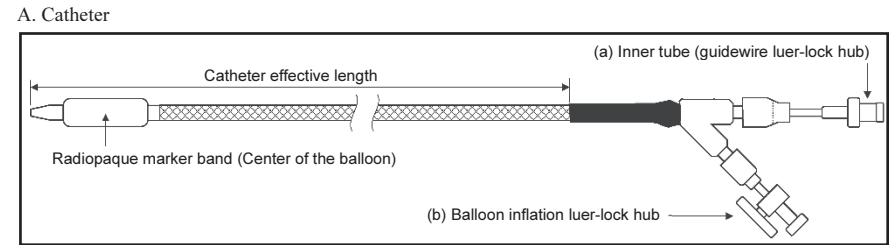

Figure 1
**INOUE BALLOON™ A** is intended for balloon aortic valvuloplasty (BAV) in patients with aortic stenosis (AS). The device is inserted over a guidewire and inflated with a predetermined amount of diluted contrast medium using the supplied syringe connected to the balloon inflation luer-lock hub (b). This results in the staged inflation of the balloon from hourglass to barrel shape. The balloon is stretched and made thinner by pushing the inner tube (a) in when passed through the introducer sheath. A radiopaque marker is provided to align the balloon center and the aortic valve using fluoroscopy (See **Figure 1,2 and 3**).